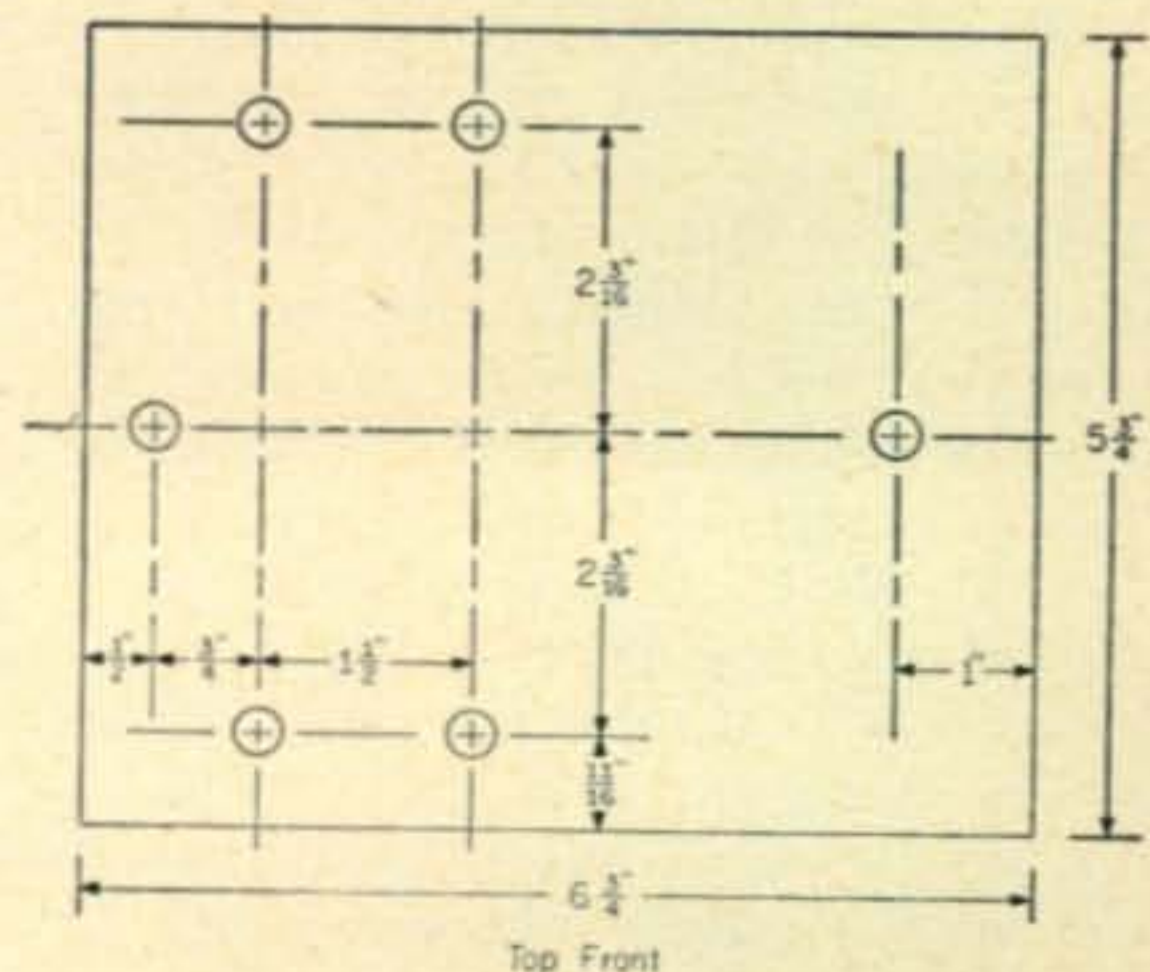

Fig. 1—Dimensions for the transmitter mounting template used for the VW.
Fig. 1—(A) Suggested circuitry using the MC-455-10Z mechanical filter with vacuum tubes, and (B) with transistors. Note that no bypass is used across the emitter resistor of the second transistor.
Make up a template for mounting the case in the car. A sketch of the template used on my car is shown in fig. 1. Tape the template to the top of the case and mark it plainly. Drill pilot holes. Use a 1/16" drill. Next, drill the holes for a 10/32" bolt. Use a reaming tool and clean the burrs from around the holes. Next, using 10/32" nuts and bolts, put the bolts through with the heads on the inside. The bolts should extend at least an inch in length. Be sure to use lock washers on both sides. The lock washer and nut on the outside leaves a ventilation space between the top of the case and the under-side of the instrument panel.